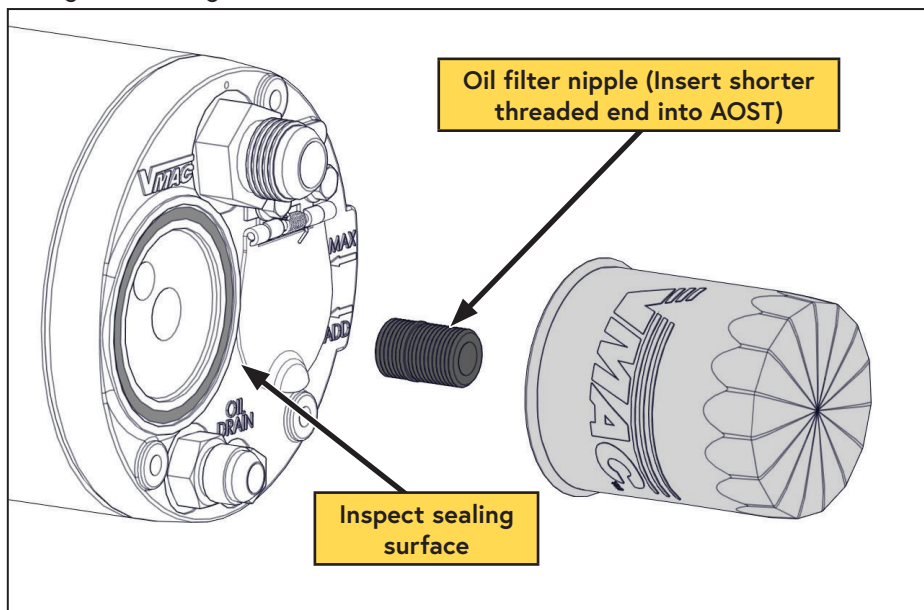

Figure 30 — Compressor oil filter
- ☐ \*To reinstall the nipple, thoroughly clean the threads and apply Loctite 242 (blue) to the end with the short threads and replace it in the AOST (Figure 30).
- ☐ Clean the gasket sealing surface on the front of the AOST and inspect it for damage. The surface must be free of old gasket material and smooth to ensure a good seal (Figure 30).